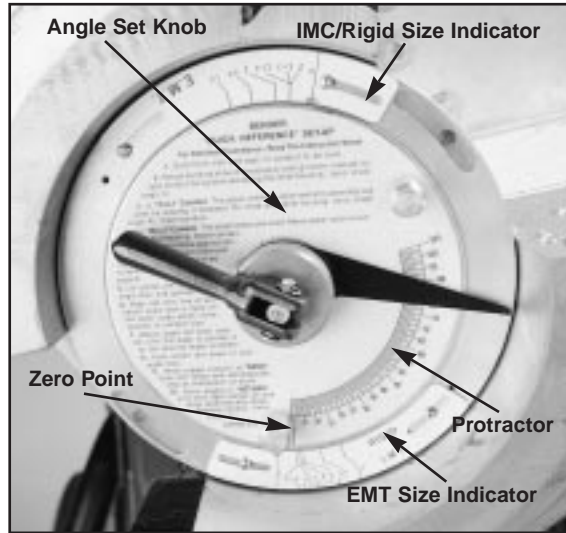

Figure 9. Set Angle Indicator
- a. Lift the angle knob locking handle to release the angle set knob and angle indicating disc. Use the two small knobs to rotate the angle disc, clockwise (Figure 9).
- b. Set the bender for specific conduit size by turning the angle disc until the red line and pointer are on an outer size indicator mark which matches the size conduit being bent (Figure 9). Be sure the correct size indicator is being used (EMT, IMC, or Rigid).
- c. Move the bend angle knob (Figure 9) until the flat edge of the pointer is on the line indicating the exact degree of bend desired. Lower the center handle to lock the pointer and scale and to prevent inadvertent movement during bending.